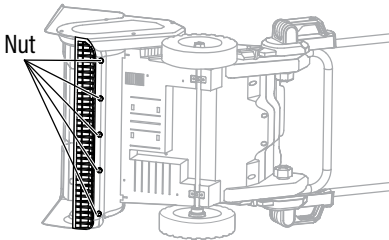

Fig. 13A
1. Turn the snow blower on its side to work on the tool. (Fig. 13A)